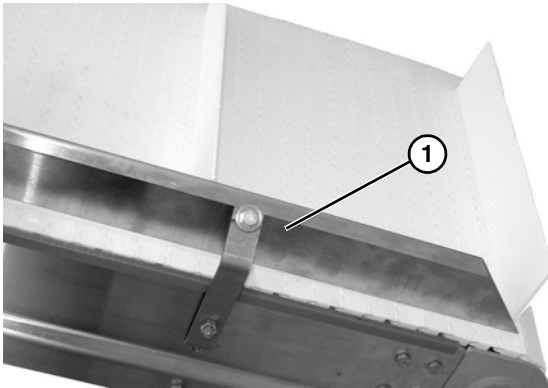

Figure 33
1. Remove guides (Figure 33, item 1) when required.